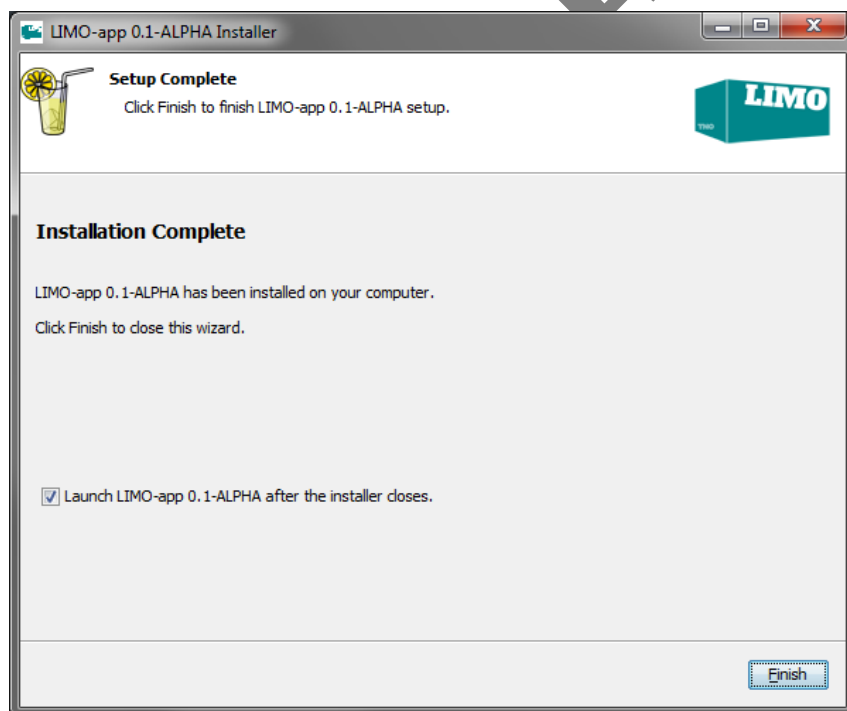

Figure 3: Installation Wizard step 5. Installation completed.
- When the unpacking is completed, information confirmation is displayed. Choose whether or not the application should start immediately after clicking the Finish button. See Figure 3